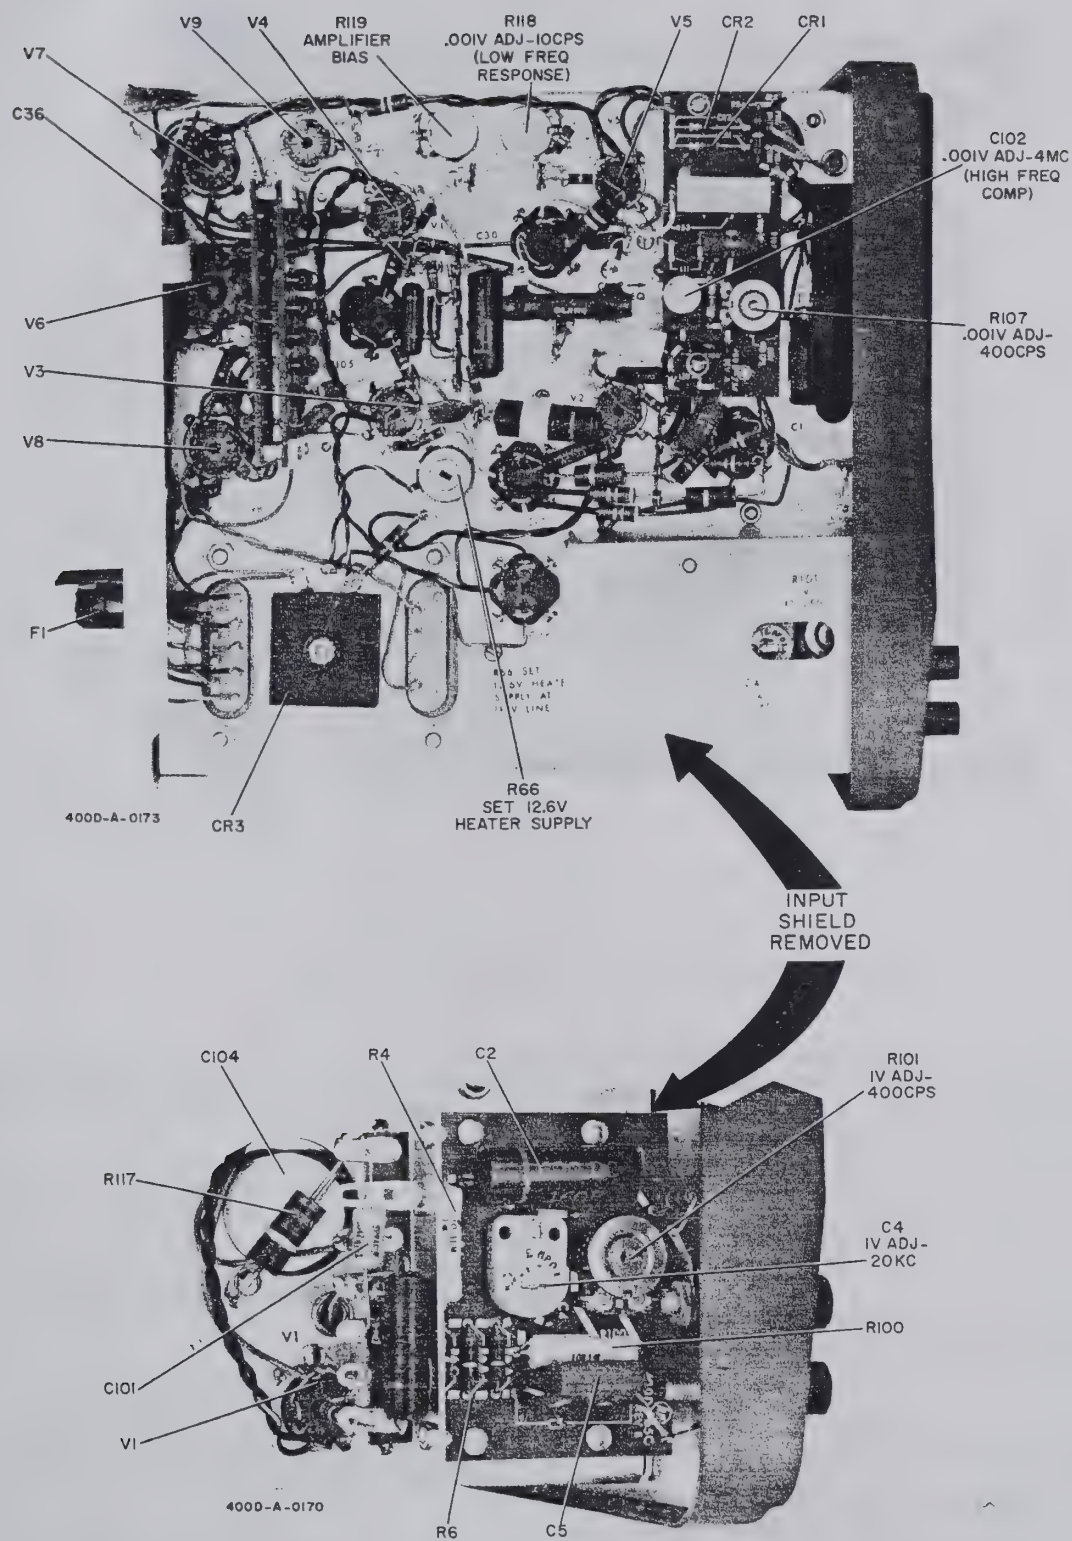

Figure 5-3. Left Side View of Voltmeter Chassis
switch assembly. Use the following procedure. (Locate parts by referring to figures 5-3 and 5-4; RANGE switch connections are shown in figure 5-9.)
d. To test the .001 volt range, set the voltmeter calibrator to .001 volt and the voltmeter RANGE switch to .001. If necessary, adjust R107 (figure 5-3) to obtain a reading of exactly 1 on the 0 to 1 VOLTS scale on the panel meter of the voltmeter under test. This sets the gain of the amplifier at audio frequencies.
e. Set the RANGE switch on the voltmeter to the 1-volt range. Set the voltmeter calibrator to 1 volt, to test this range. If necessary, adjust R101 (figure 5-3) to obtain a reading of exactly 1 volt on the voltmeter. This sets the division ratio of the input voltage divider at audio frequencies.
l. If necessary adjust C102 (figure 5-3) to obtain a reading at 0.9 on the voltmeter under test. This sets amplifier gain at video frequencies.
r. On the 1-volt range of the voltmeter, measure frequency response at both 20 kc and 4 mc using a procedure similar to steps g through k. At 20 kc if necessary adjust C4 (figure 5-3) to obtain a reading of 0.9 on the voltmeter. At 4 mc if necessary pad the value of R6 (figure 5-3) to obtain a reading between 0.85 and 0.95 ($\pm 5\%$). R6 consists of several resistors connected in parallel. Increasing the value of one of these resistors raises the meter reading at 4 mc. The input shield must be in place on the voltmeter chassis when making this reading.